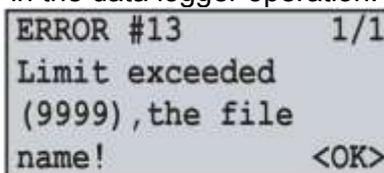

Fig. 6.5 – The message about an error when the file name reaches the limit
When the file size reaches the user defined limit (32 KB – 512 MB), the data logger automatically creates a new file with the following name **“FILE0002.RDF”**. When the file name reaches the maximum (**“FILE9999.RDF”**), the recording process will be terminated and on the data logger display there will be a message about an error shown in the figure 6.5. The LED indicator **RECORDING** (Fig. 3.2, item 7) will start flickering indicating that there is a mistake in the data logger operation.